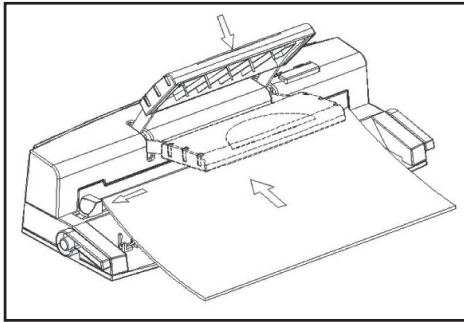

Figure 5
- Set the paper format to be used with sliding the edge guide (see figure 5).